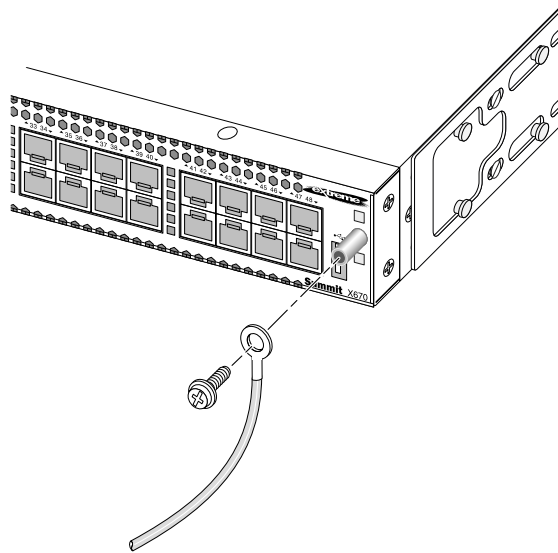

Figure 253: Grounding a Summit X670 Series Switch
2. Ground the switch as shown in Figure 253 on page 322.